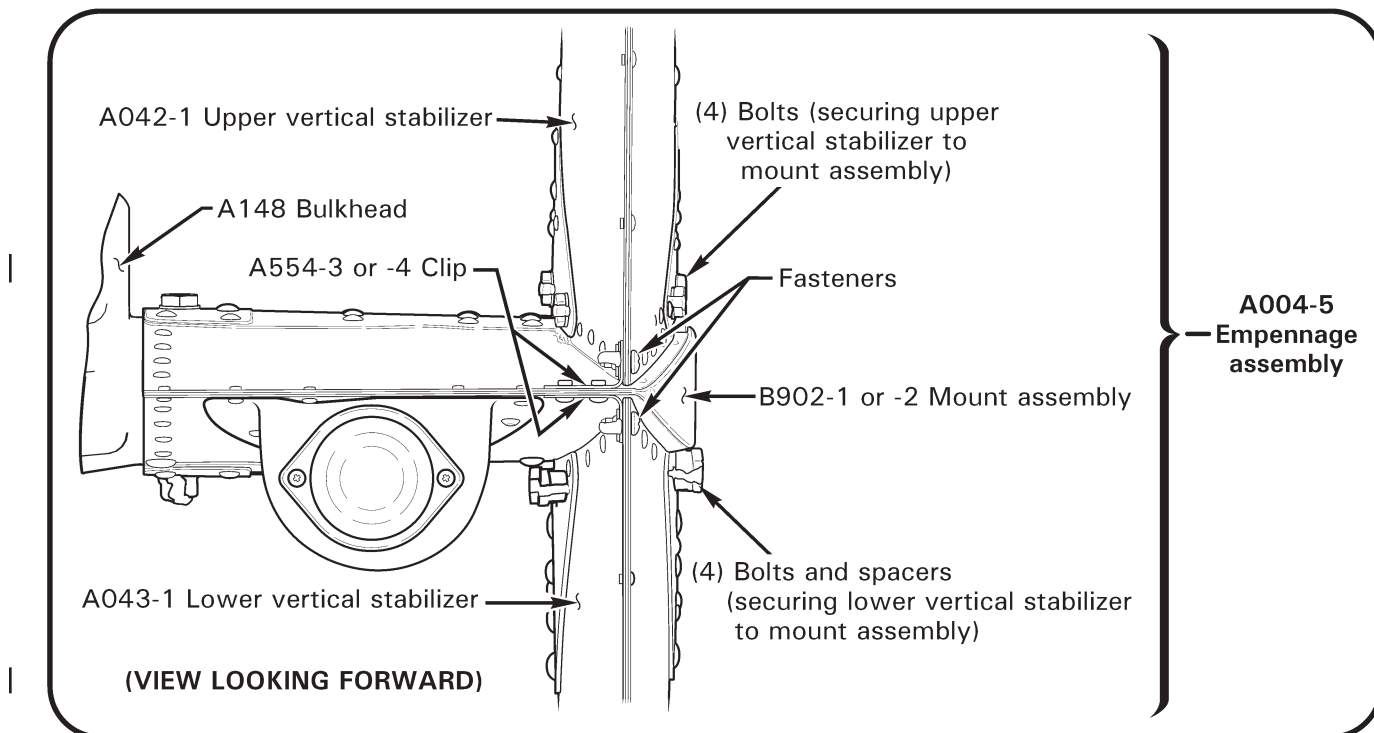

FIGURE 4-5 A004-5 EMPENNAGE ASSEMBLY INSTALLATION
2. Refer to Figure 4-5 or 4-5A. While supporting empennage assembly, remove hardware securing empennage to A148 bulkhead, and remove empennage.
1. Refer to Figure 4-5 or 4-5A. Position empennage assembly on A148 bulkhead.
1. Refer to Figure 4-5 or 4-5A. Remove fastener securing A554 clip to A042-1 upper vertical stabilizer assembly.
1. Refer to Figure 4-5 or 4-5A. Position A042-1 upper vertical stabilizer assembly on B902-1 (or -2) vertical stabilizers mount assembly or A044-1 horizontal stabilizer, as applicable. Verify 0.030–0.120 inch gap between vertical stabilizer skin edges and mount assembly (or horizontal stabilizer) upper skin. File vertical stabilizer skin edge(s) as required. Conversion coat & prime bare aluminum edges per §§ 23-51 & 23-60.
1. Refer to Figure 4-5 or 4-5A. Remove fastener securing A554 clip to A043-1 vertical stabilizer.
1. Refer to Figure 4-5 or 4-5A. Position A043-1 lower vertical stabilizer assembly on B902-1 (or -2) vertical stabilizers mount assembly or A044-1 horizontal stabilizer, as applicable. Verify 0.030–0.120 inch gap between vertical stabilizer skin edges and mount assembly (or horizontal stabilizer) lower skin. File vertical stabilizer skin edge(s) as required. Conversion coat & prime bare aluminum edges per §§ 23-51 & 23-60.
1. Refer to Figure 4-5. Position B902-1 (or -2) vertical stabilizers mount assembly on A148 bulkhead.